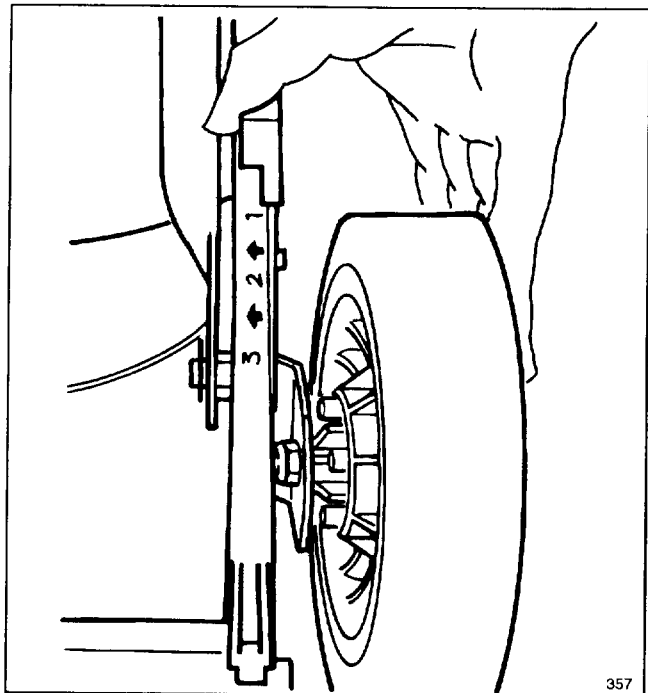

Figure 8
2. For easier adjustment, lift housing up so wheel is off ground. **Do not put fingers under housing when lifting.** Squeeze adjusting lever toward wheel (Fig. 8) and move it to the desired setting. Ensure pin on adjusting lever engages notch in housing. Adjust all wheels to the same height.